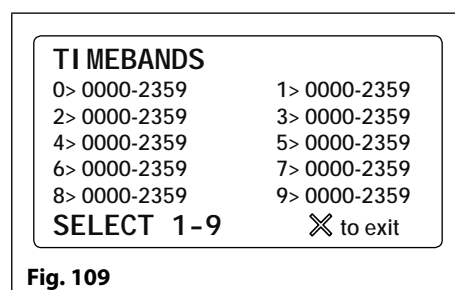

Fig. 109
- 0 -  When set in this mode and the panel's onboard relay is activated the display will show that the door is open (refer to **Fig.109** on pages 60 - 61). The speech annunciation (if the speechboard is switched ON) will announce "the door is open".
Selecting option 5 from the time settings menu will access the 1st timeband screen (refer to **Fig.109**). On this screen the timebands can be selected and then programmed on the next timeband screen. The GSM intercom has 9 programmable timebands (1 - 9). Timeband "0" is the default timeband and is permanently set from 0000 - 2359 and cannot be adjusted.
Enter the time period required (using 24 hour clock notation, e.g. 4:35pm would be entered as 16:35). To confirm and save the setting press the ENTER button and the screen will revert back to the timebands list (refer to **Fig.109**).